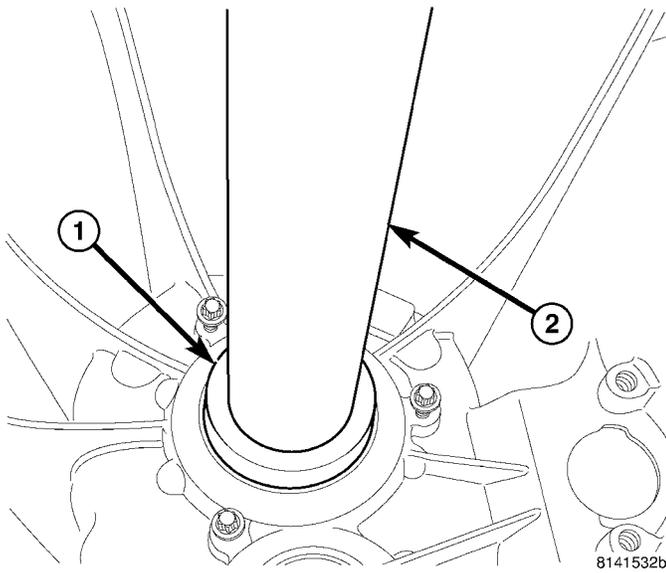

Fig. 94 INPUT SHAFT SEAL INSTALLER
(1) Install input shaft seal (Fig. 94) with Installer 9635 (1) tube 6448A (2).